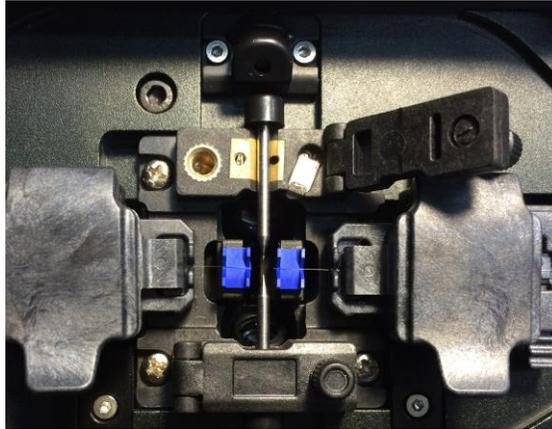

Fig 4-6 Electrode exchange
- 2) Remove the used electrode as in Fig 4-6